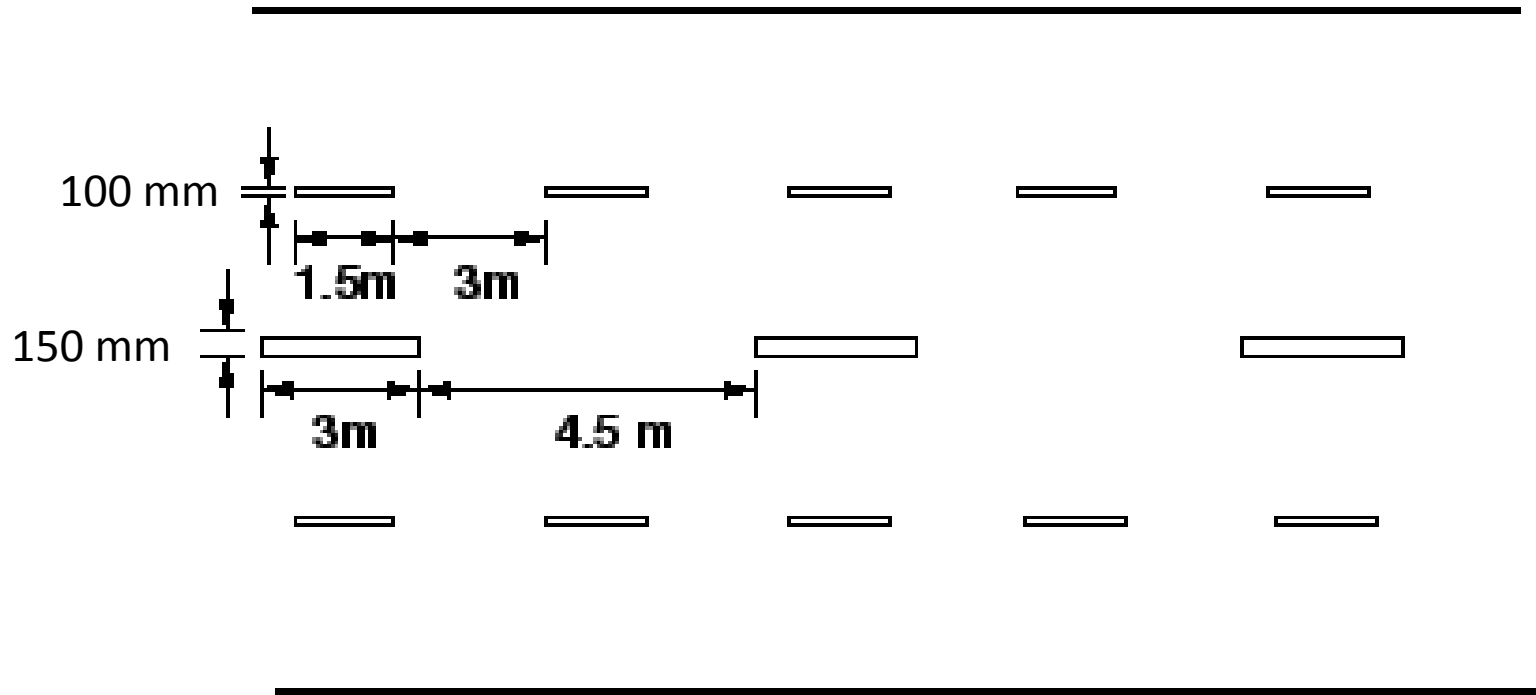

Figure 2: Center Line and Lane marking for a 4 Lane Rd
- Single Broken Line of 150 mm wide as in figure 2, or